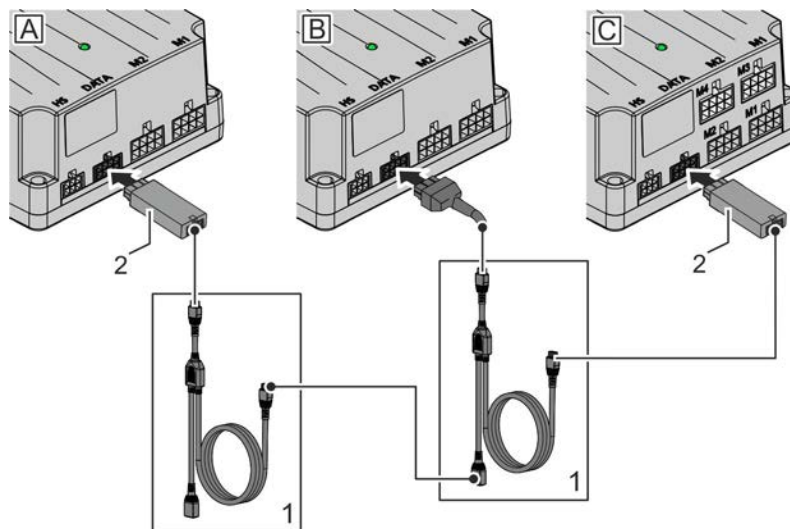

Figure 26 - Connecting control units
2. Connect the BUS cable (Figure 26/1) and terminating resistors (Figure 26/2) to the data interfaces on the control units (Figure 26/A - C).
Make sure that the terminating resistor (Figure 26/2) is connected directly to the DATA interface on the first (Figure 26/A, master) and the last (Figure 26/C, slave) slave control unit.